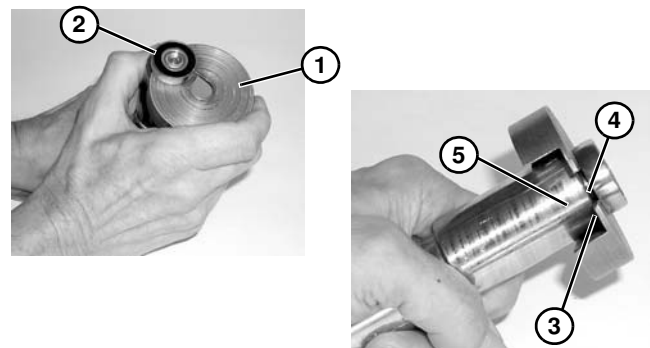

Figure 120
1. Place bearing removal tool part #456063 (**Figure 120, item 1**) below bearing (**Figure 120, item 2**) with lip (**Figure 120, item 3**) located in gap (**Figure 120, item 4**) between bearing and spindle hub (**Figure 120, item 5**) as shown.